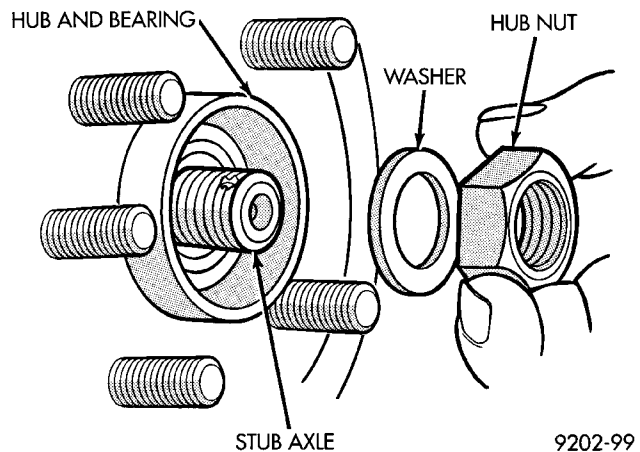

Fig. 28 Front Hub To Stub Shaft Nut
(9) Clean all foreign matter from the threads of the outer C/V joint stub axle (Fig. 28). Install hub nut onto threads of stub axle and tighten nut.